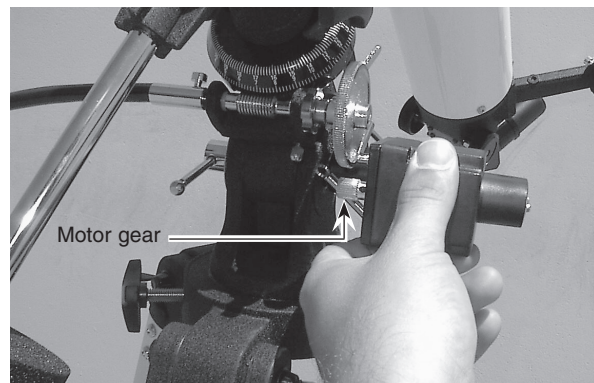

Figure 5. Attaching the EQ-2M motor to the EQ-2 mount. Make sure the motor gear is positioned directly underneath the circular gear.
2. The motor itself fits onto the motor mounting shaft. Loosen the motor's locking T-bolt and slide the cylinder of the motor housing onto the shaft. Make sure that the small gear on the motor is just underneath the circular gear on the end of the R.A. worm gear shaft (see Figure 5).